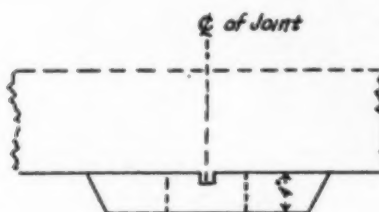

Fig. 2
2. Fig. 2—Place wood spacers 24 in. to 40 in. apart. Press into soil—Fig. 7.